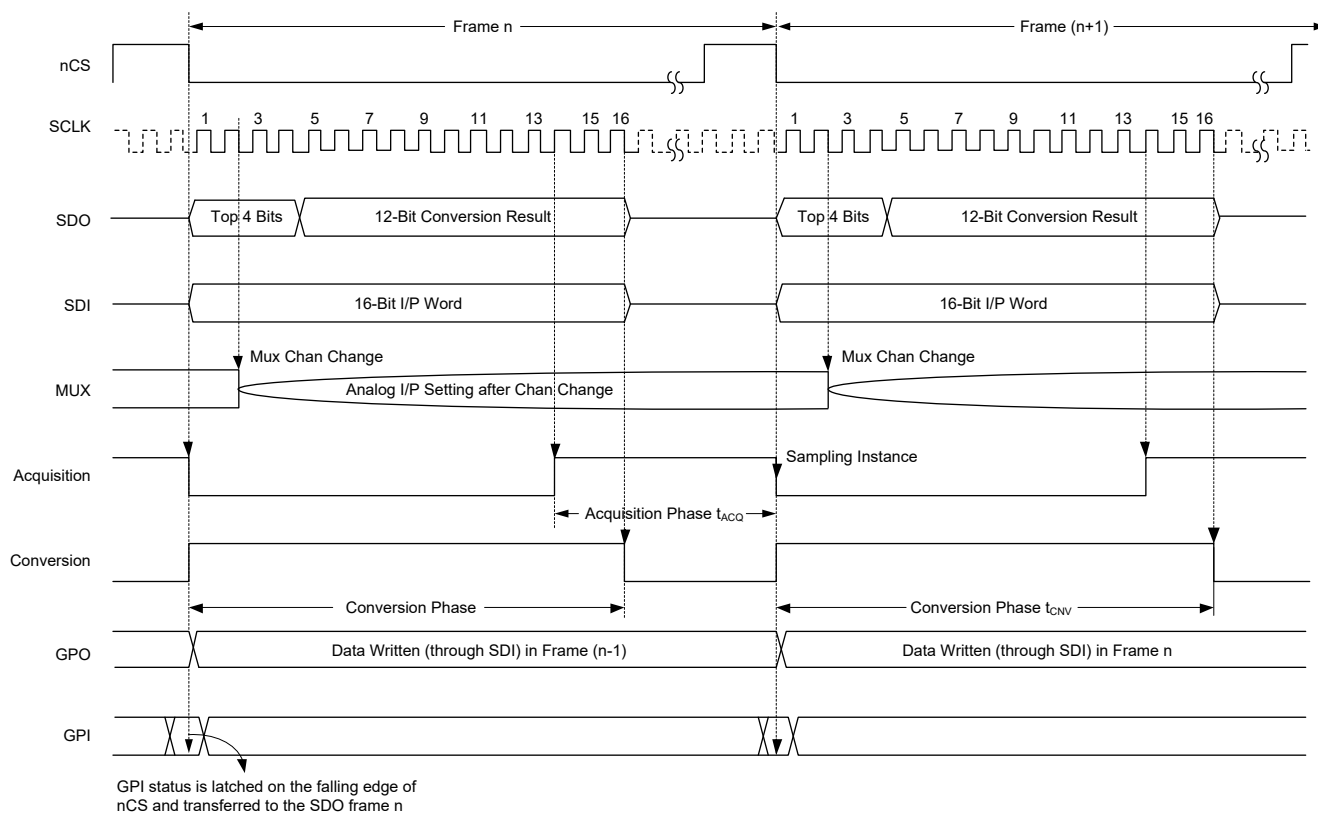

Figure 1. Device Operation Timing Diagram
(Full = -40°C to +125°C,  $V_A = 2.7V$  to 5.25V, unless otherwise noted.) (1) (2) (See Figure 1 and Figure 2)
Figure 1 and Figure 2 show device operation timing. Device operation is controlled with nCS, SCLK and SDI. The device outputs its data on SDO.
There are three modes for channel sequencing, namely manual mode, auto-1 mode and auto-2 mode. Mode selection is done by writing into the mode control register (refer to Table 1, Table 2 and Table 5). A new multiplexer channel is selected on the 2nd falling edge of SCLK (as shown in Figure 1) in all three modes.